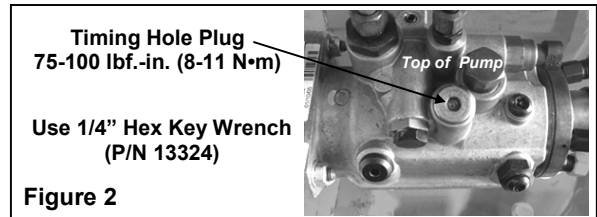

Figure 2
2. Using the included 1/4" Hex Key Wrench (P/N 13324), remove the timing hole plug on the top of the fuel injection pump (Figure 2).
6. Install the injection pump drive gear access cover. Remove the engine timing pin (P/N 40571) from the flywheel and remove the pump timing pin (P/N 40610) from the pump. Install the timing hole plug (Figure 2) and tighten to 75-100 lbf.-in. (8-11 N•m).